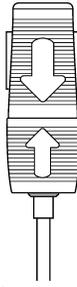

Fig. 8
2. Confirm that the reference indicator on the insertion sheath is facing up. To ensure proper orientation of the Angio-Seal device with the sheath, the sheath cap and the device sleeve only fit together in the correct position. The reference indicator on the device cap should align with the reference indicator on the insertion sheath cap (Figure 8). Keeping the insertion sheath in place, carefully advance the Angio-Seal device in small increments until completely inserted into the insertion sheath. The sheath cap and the device sleeve will snap together when properly fitted.